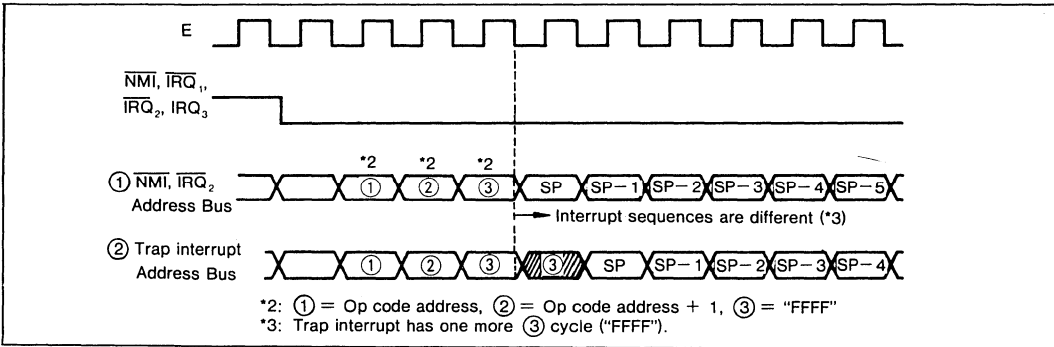

Figure III-12. Interrupt Sequence
- Interrupt sequence (figure III-12)